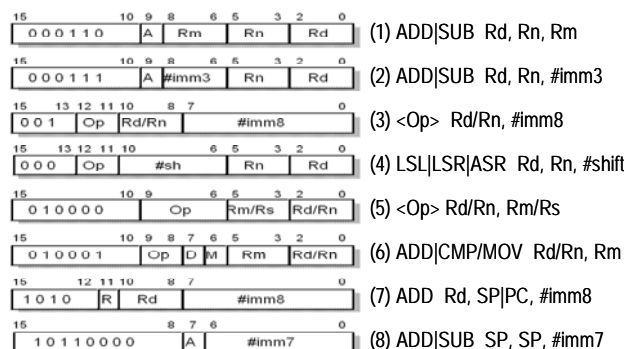

Fig. 7 Thumb data processing instruction binary encodings
5. The instruction coding of Thumb data processing instructions is shown in Fig. 7.